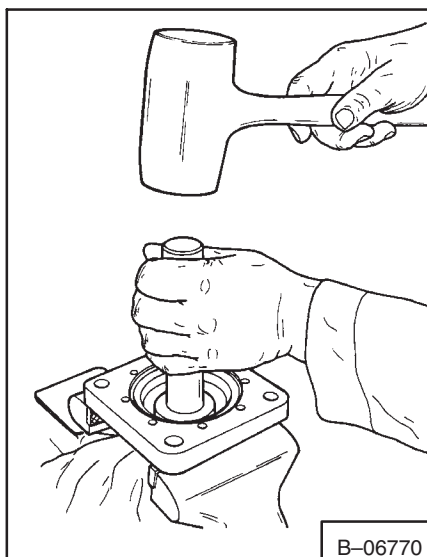

**Fig. 3-67** Installing Shaft Assembly
6. Press the shaft and the bearing assembly into the bearing housing (Fig. 3-67). Be careful not to damage the shaft seal. Turn the shaft several times to make sure that the shaft is free.